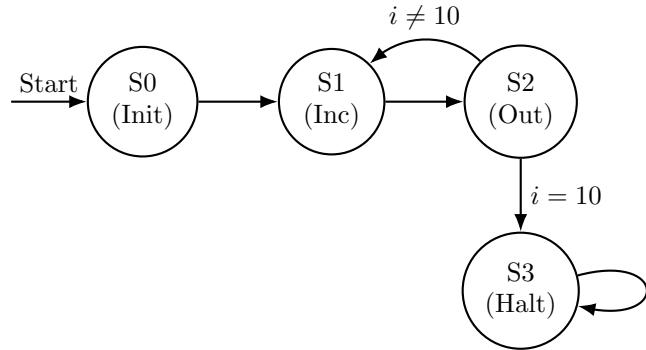

Figure 4: State diagram of control unit for counting 1 to 10.
The state diagram of control unit is derived as shown in Figure 4.
1. Write a VHDL file that defines a finite state machine (FSM) depicted in Figure 4. Your code should include a state variable that hold the current state ($s_0 \dots s_3$), a reset input to initialize the state to s_0 and the control signals ($iLoad$, $Clear$ and Out) as outputs to the datapath. Compile the circuit. How many logic elements (LEs) are used to implement your circuit?